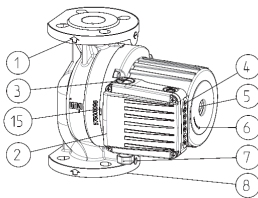
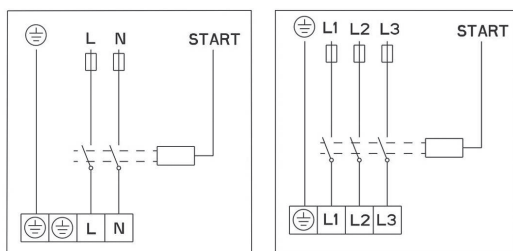

Fig.1
Fig. 3
- The pump should be incorporated into piping system with the pump axis 1-1 in horizontal position (Fig. 3).
- Direction of water flow through the pump should match with direction, indicated by an arrow on the pump casing (Fig.1-POS.1).
- The connecting flanges are designed for nominal pressure NP 6/10 (Fig.1 – POS.8).
- GHN (basic, auto), GHNM (basic, auto) pumps have a single hydraulic casing (Fig.1 – POS.8).
The hydraulic casing of the pump can be insulated only to the cleft between the motor and the hydraulic casing. Openings for condensate drainage should remain uncovered and enable the drainage from the stator housing. Similarly, the same openings must be uncovered also in heating systems, when only thermal insulation of hydraulic casing is implemented (Fig. 1, 2, POS. 15). Electric motor casing, on which the openings for condensate drainage are located, under no condition should not be insulated!
The connecting wire has to be connected over a cable entry M20 (Fig.1 – POS.7).
Electrical connections of the pump must be carried out in accordance with the wiring diagram (Fig. 3), attached on the bottom of motor cover. Before doing that unwind the upper cover (Fig. 1 - POS. 2).
In the pumps of types GHN (basic auto), GHND (basic, auto), GHNMD (basic, auto), GHNMD (basic, auto) the rotor is submerged and provided with special water-lubricated bearings. Before putting the pump into operation, it has to be filled with water and deaerated. Deaerate the pump by unscrewing a screw on the back side of the electric motor (Fig.1-POS.5). Air will flow out through the cleft between the motor shaft and the bearing. When water starts to flow out, close the valves at both the suction and pressure side of the pump. Start the pump and check the direction of shaft rotation. In case of a wrong direction a built-in flash lamp will start to blink with red light.
Each pump is able to cover the areas of three hydraulic characteristics. To achieve this, it has an inbuilt electric motor with three different revolution speeds. For achieving the selected characteristics or speeds ① ② ③, the pump has a push button  (Fig.1-POS. 4), with which we change speeds.
Switch off the pump, close the valve on both pressure and suction sides of the pump, unscrew the vent for deaeration, place the screwdriver (Fig.1-POS.5) in the notch on the shaft and twist as longer as friction forces allow. Then screw the vent for deaeration.